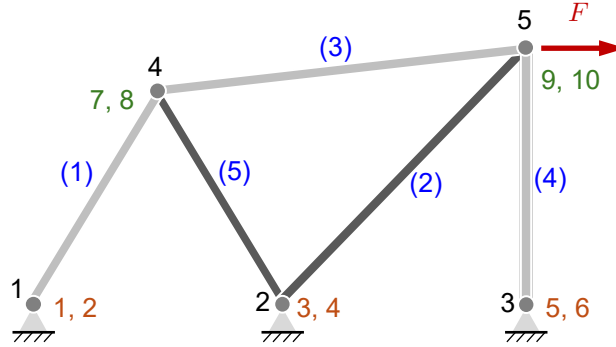

Figure B1. Example 2D bars structure.
In a 2D bars problem, the number of DOFs per node is 2 (1 = horizontal  $x$ -component and 2 = vertical  $y$ -component). Consider the example 2D bars structure depicted in Figure B1. It contains 5 nodes (indexed from 1 to 5), and 5 elements or bars (indexed from (1) to (5)). Which index is assigned to each node or bar does not matter, as long as we stick to a defined configuration throughout the whole problem. Bars (1), (3) and (4) are made of a material with elastic modulus  $E_1$  and cross-section area  $A_1$ , while bars (2) and (5) are made of another material with  $E_2$  and  $A_2$ . Furthermore, these bars are subjected to an initial stress  $\sigma_0$ .